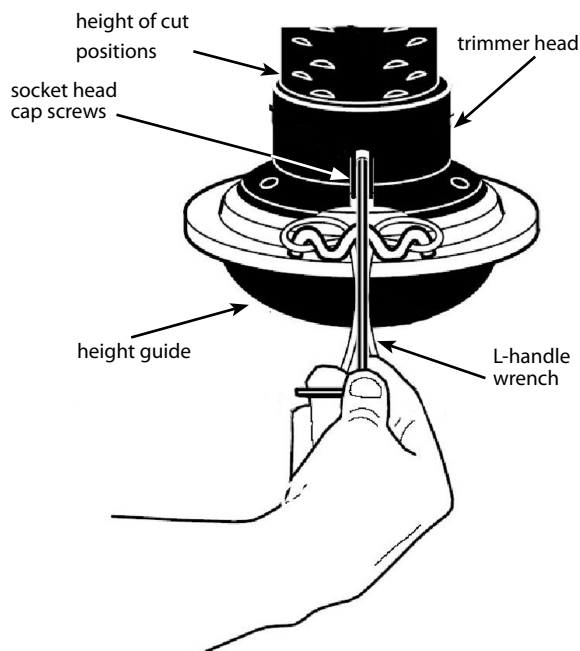

Figure 16: Setting the height of your cut.
The height of the cut can be set from 1-1/2 inches to three (3) inches. The recommended cutting height for the average yard is two (2) inches. **SEE FIGURE 16.**